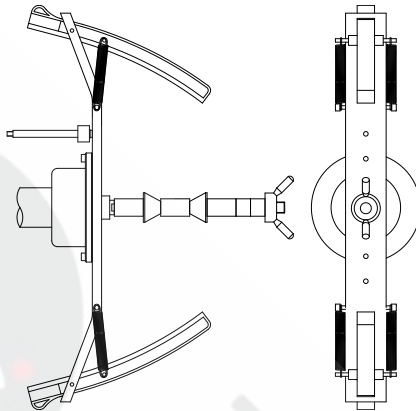

Fig. F4.3 Application of the sample weight on the external side of the flange for motorbikes on the shaft (Cal3 phase)
10. At the end of the launch, the machine will display the writing CAL h12. Apply the calibration weight on the external side as shown in Figure F4.3. The calibration weight is to be applied on the hole that has the wording "CAL" marked on it;
as shown in figure F4.3 and press the [P8]  Start or lower the wheel guard. If the position is significantly different from the vertical one, the machine will reject running the launch by emitting an acoustic error message (triple beep).